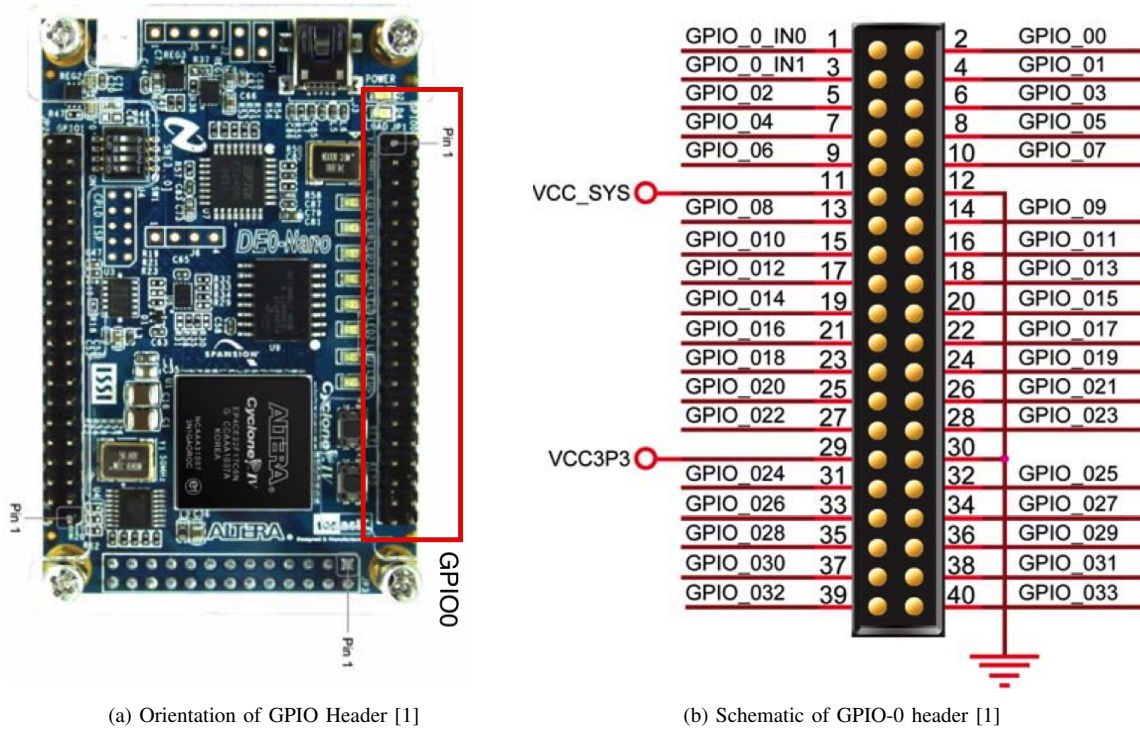

Fig. 5: GPIO0 and its orientation of the development board
1) *GPIO headers on the DE0-Nano:* Be careful when referencing the pin diagrams in the DE0-Nano user manual. It is easy to read it backwards and that can be a mistake that will cost you hours. It is easiest to match the Nano's orientation with the schematic and count from the nearest edge. Figure 5 shows GPIO 0 next to a schematic of the header. Always check VCC_SYS, VCC3P3, and GND with a multimeter before attaching a circuit you have built. This is the header pin schematic from the DE0-Nano user manual. Inside the verilog code these pins follow a little different nomenclature. What is labeled as GPIO_0_IN[0] in figure 5 is GPIO0_IN[0] and GPIO_00 is GPIO0[0]. Refer to the DE0-Nano user guide for details on the orientation of the headers.